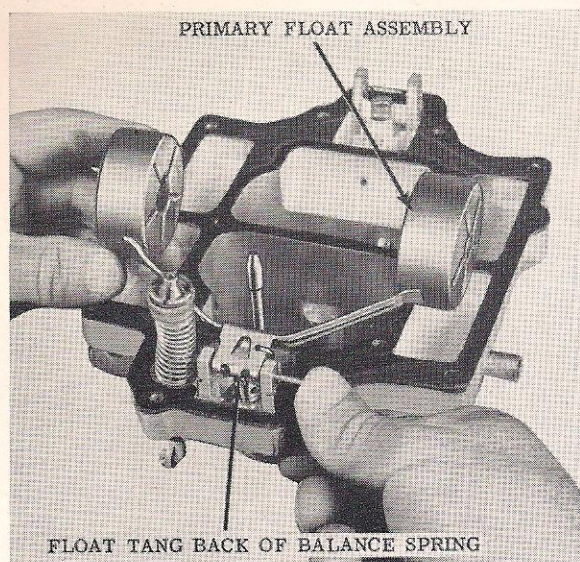

Figure 7-27
6. Assemble float needle to float assembly. Then install float, needle and hinge pin on pump side of carburetor. (Figure 7-27.)